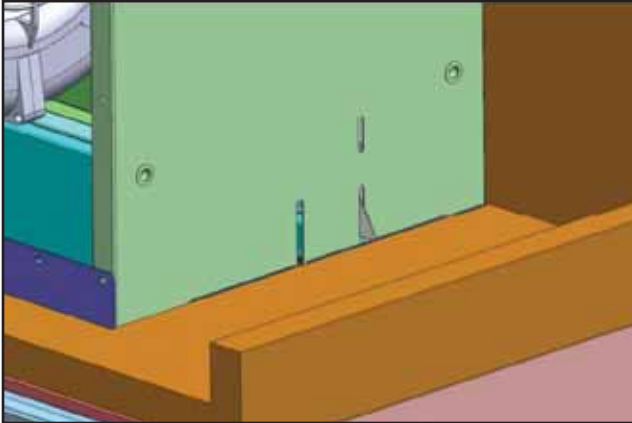

Fig.5
4) There are spring clips located on the left and right sides of the hood body which will temporarily hold the hood in place, Fig.5.